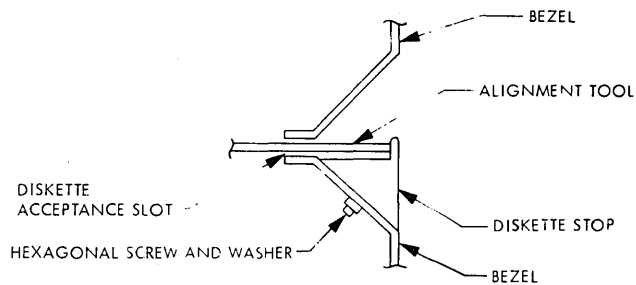

Figure 5-4. Diskette Stop Placement (Side View)
- (1) Close loading door and turn disk drive upside down.
- (2) Remove the Allen-head retaining screw (with a ball-type Allen wrench) from the diskette stop on back of the bezel.
- (3) Open loading door and remove the diskette stop from the bezel; retain the screw.
- (4) Attach the new diskette stop to the bezel and secure lightly with the screw.
- (5) Install the diskette-stop alignment tool (PERTEC Part No. 601060-01) through the top of the drive. Ensure that the circular projection fits into the drive hub.
- (6) Push the diskette stop until it contacts the edge of the adjustment tool. Hold the stop firmly and squarely against the tool. Tighten the holding screw. Refer to Figure 5-4.
- (7) Remove the alignment tool.